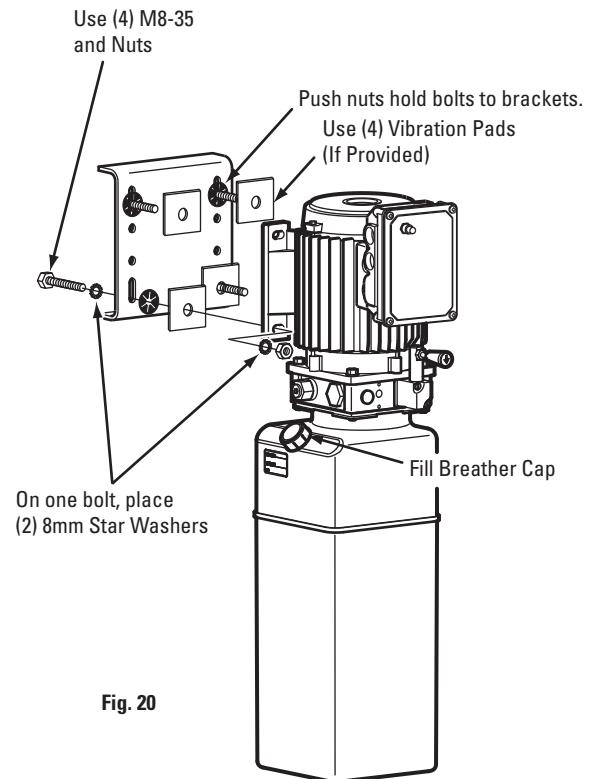
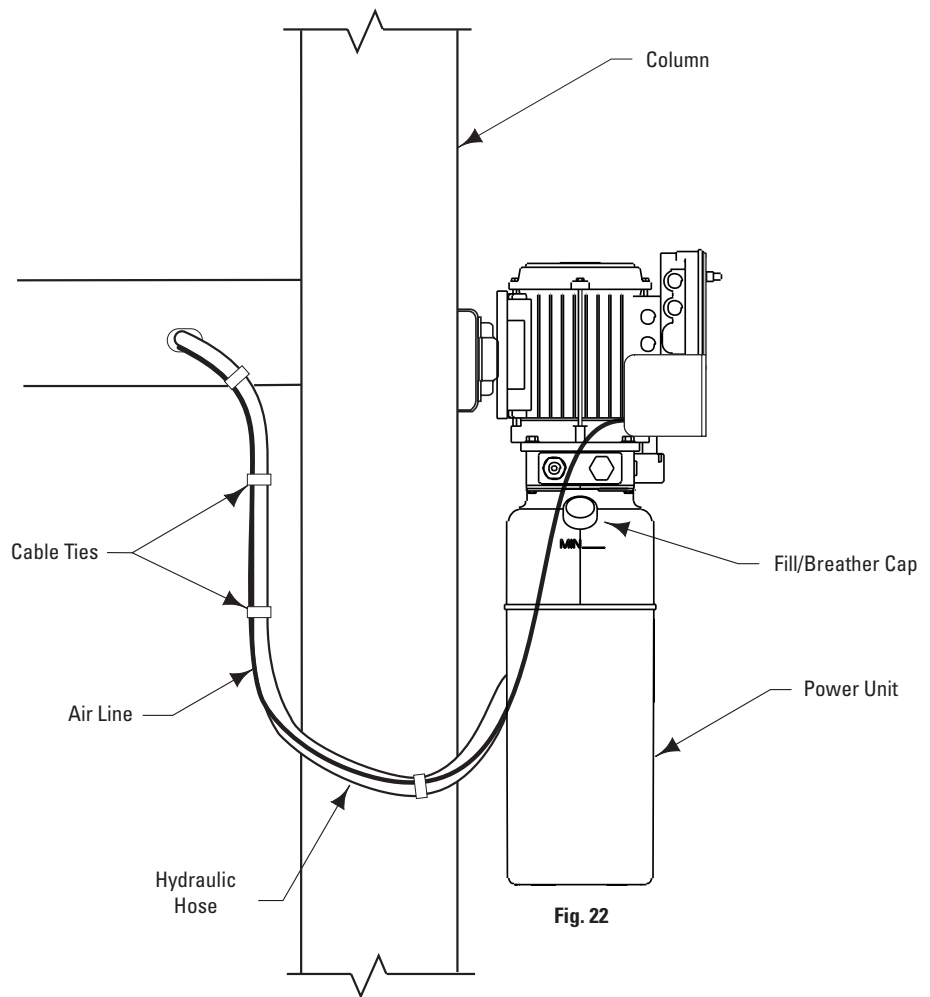

Fig. 20
Fig. 22
- A. Put (4) M8-35 hex bolts through holes in column bracket using push nuts to hold in place.
- B. Mount power unit, with motor up, to column bracket and install lock washers and nuts, Fig. 20. Run hydraulic hose from runway through slot in side of runway to power unit output port, Fig. 22. DO NOT use Teflon tape on hydraulic hose connections.
- D. Run hydraulic hose from runway through slot in side of runway to elbow, Fig. 22. DO NOT use Teflon tape on hydraulic hose connections. Clean elbow and hose. Inspect all threads for damage and hose ends to be sure they are crimped. Attach hose to elbow using Flared Fittings Tightening Procedure.
**17. Oil Filling:** Use Dexron III ATF, or hydraulic fluid that meets ISO 32 specifications. System capacity is fourteen (14) quarts. Use Dexron III ATF or equal. Fully lower lift. Remove fill/breather cap, Fig. 22. Fill to minimum fill line on tank, replace cap.
- 19. Bleeding:** Lift must be fully lowered before changing or adding fluid. Raise and lower lift six times. The cylinder is self-bleeding. After bleeding system, fluid level in power unit reservoir may be down. Add more ATF or ISO32 hydraulic oil, if necessary, following instructions in Step 16. To pressure test, run lift to full rise and run motor for approximately 5 seconds. Stop and check all fittings and hose connections. Tighten or reseal if required. Lower lift. If fill/breather cap, Fig. 22, is lost or broken, order replacement.